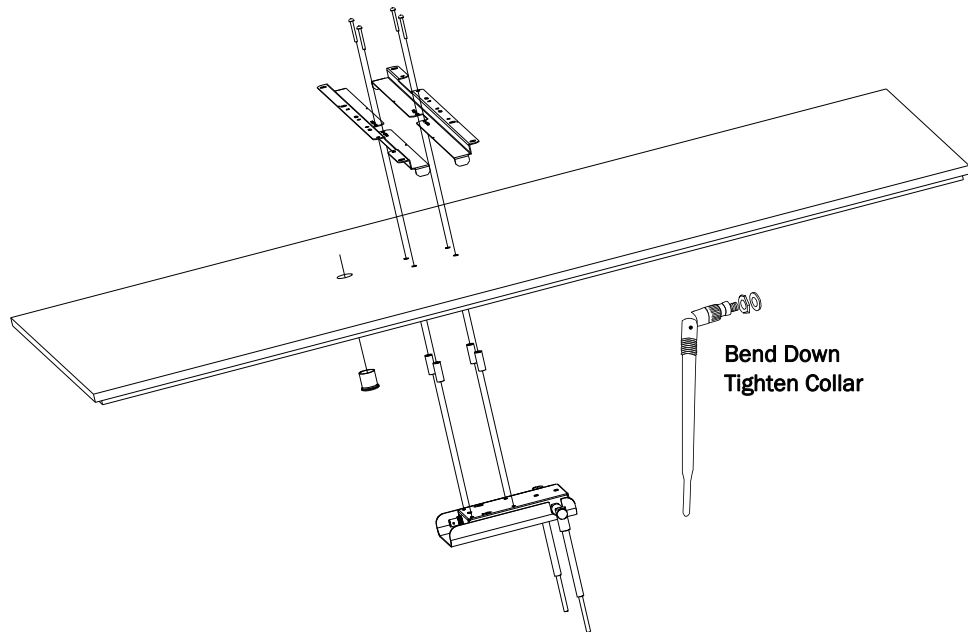

Figure 2-18: Mounting the RA Below a Ceiling Tile (Fixed Mount)
7. Insert the four (4) M3-.5 x 30 lobe screws into the RA mounting rail holes, through the ceiling tile, through the provided plastic spacers, and into the mating holes in the back of the RA chassis as shown in Figure 2-18. Torque-tighten each screw to 8-inch lbs.